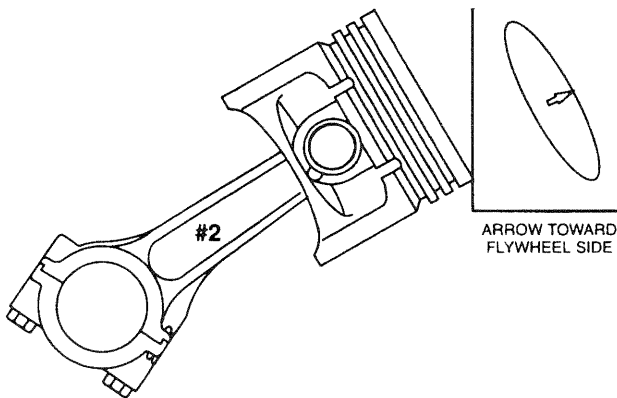

Fig. 9 - Assemble #2 Rod And Piston
- Lubricate parts with engine oil and assemble #2 piston and connecting rod, Fig. 9.